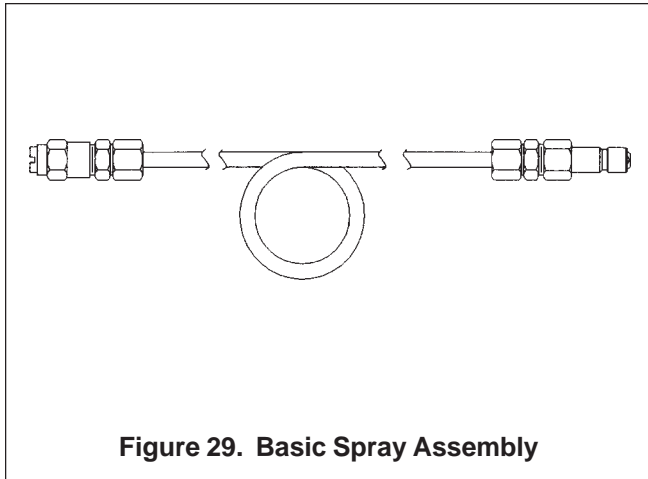

Figure 29. Basic Spray Assembly
**Basic Spray Assembly.** (See Figure 29.) The basic spray assembly consists of a ten-foot (three-meter) long, 1/4-inch (6.3 mm) O.D. nylon tubing with a male quick-connect plug at one end and the selected spray nozzle at the other end.